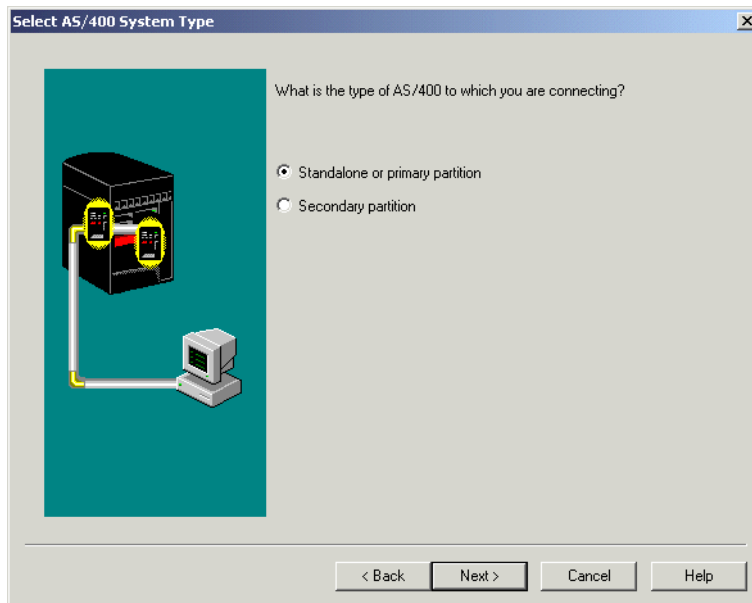

Figure 7-23 Select AS/400 System Type display
4. The next panel (Figure 7-23) asks you to identify the type of AS/400 system to which you are connecting. Click **Standalone or primary partition**. Then, click **Next**.